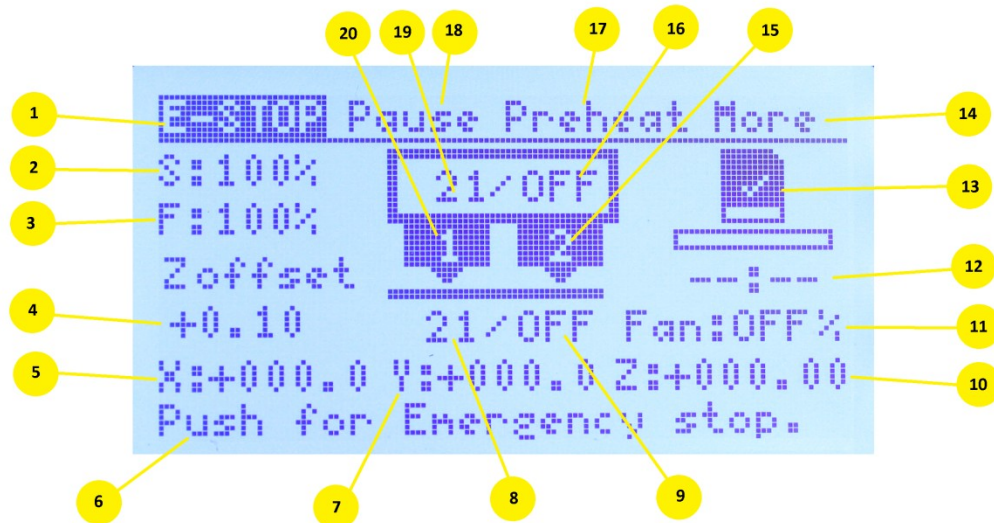

FIG 14.
All of the main setting in **FIG 14**. can be accessed by turning the Scroll wheel/push button clockwise and counter clockwise, then pressing the same button to select that feature.
1. E-STOP is currently selected in **FIG 14**. because it is showing white text with black background. Emergency Stop will shutdown all motors and heaters in case of an emergency and restart the printer. After 30 seconds and if there is no activity with the Scroll wheel/push button, the system will always revert back the "E-STOP". To activate the emergency stop function, press the button.